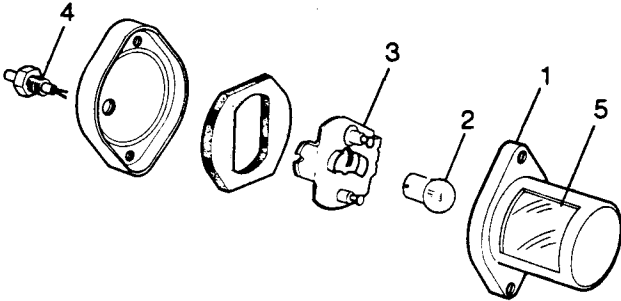

Fig O5.29
- (2) Refer to Fig O5.29. Remove the lens cover fixings (1).
- (3) Remove the bulb (2).
- (4) Disconnect the lamp leads at the connectors on the carrier (3) making a note of which connector each lead comes from.
- (5) Unscrew the hollow bolt (4) through which the leads are routed.
- (6) Remove the two nuts holding the lamp to the wall and pull the lamp body away.